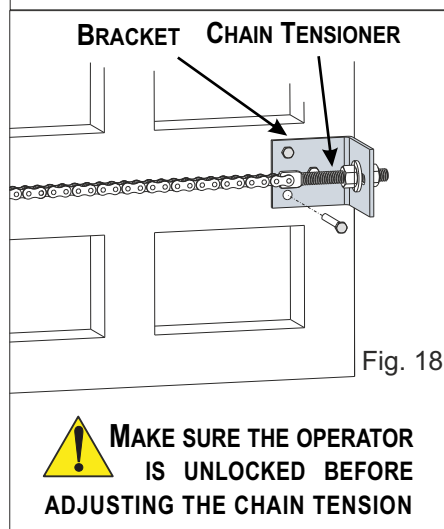

Fig. 18
- 3.1. Secure two sturdy brackets at the two extremities of the gate for attaching the chain (Fig. 18)
- 3.2. Install a chain tensioners on each bracket in order to regulate the chain tension(Fig. 18)